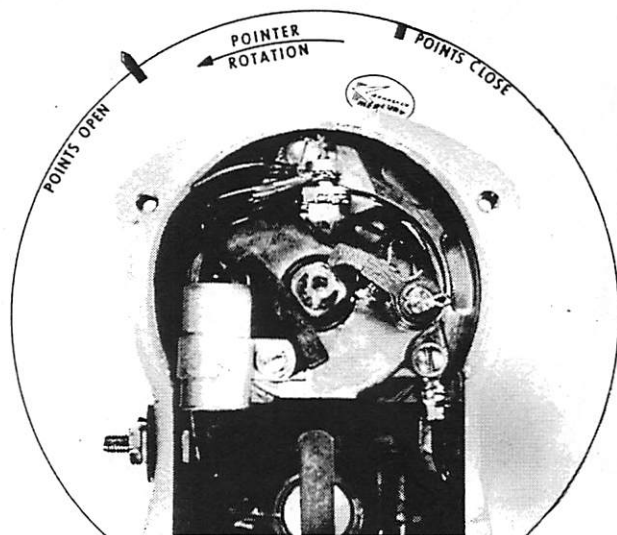

Figure 5. Four-Cylinder Dwell Adjustment
- (2) Dwell adjustment (Figure 5)